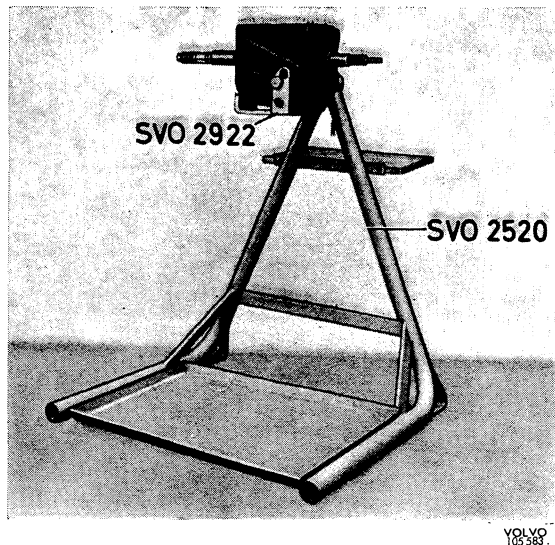

Fig. 4-13. Gearbox in fixture
- SVO 2922 Fixture for gearbox when dismantling and assembling (used together with SVO 2520, see Fig. 4-13)
1. Fit fixture SVO 2922 in stand SVO 2520. Place the gearbox in the fixture, see Fig. 4-13.